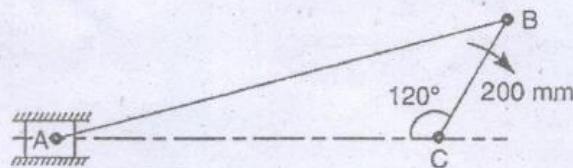

Fig. 12(a)
- (ii) Explain mechanical advantage and transmission angle related to four bar mechanism. (6)
12. (a) An engine mechanism is shown in Fig. 12 (a). The crank  $CB = 200$  mm and the connecting rod  $BA = 600$  mm. In the position shown, the crankshaft has a speed of  $50$  rad/s and an angular acceleration of  $800$  rad/s2. Find: (i) angular velocity of  $AB$  and (ii) angular acceleration of  $AB$ . (13)